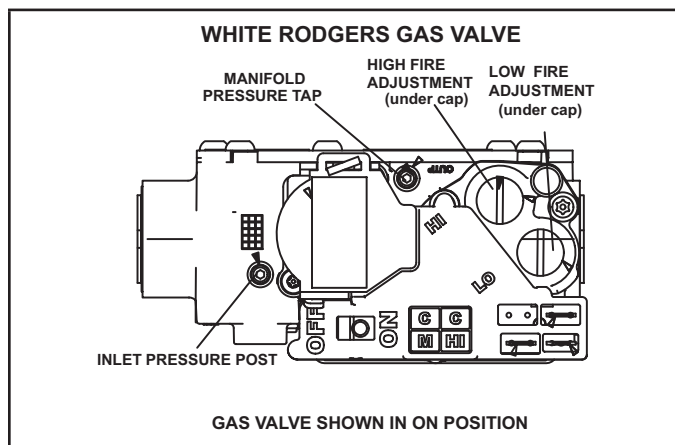

FIGURE 65
Gas Valve Operation (FIGURE 65)
- 6 - Move gas valve switch to **OFF**. See FIGURE 65.
- 8 - Move gas valve switch to **ON**. See FIGURE 65
An inlet post located on the gas valve provides access to the supply pressure. See FIGURE 65. Back out the 3/32 hex screw one turn, connect a piece of 5/16 tubing and connect to a manometer to measure supply pressure. See TABLE 22 for supply line pressure.
A manifold pressure post located on the gas valve provides access to the manifold pressure. See FIGURE 65. Back out the 3/32 hex screw one turn, connect a piece of 5/16 tubing and connect to a manometer to measure manifold pressure.
- 5 - If necessary, make adjustments. FIGURE 65 shows location of high fire and low fire adjustment screws.